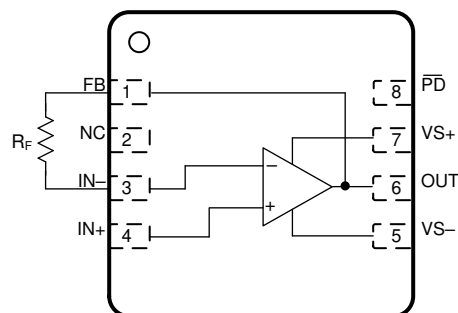

Figure 9-4. R_F Connection Between FB and IN– Pins
1. A feedback resistor (R_F) can connect between the FB and IN– pin on the same side of the package (see Figure 9-4) rather than going around the package.